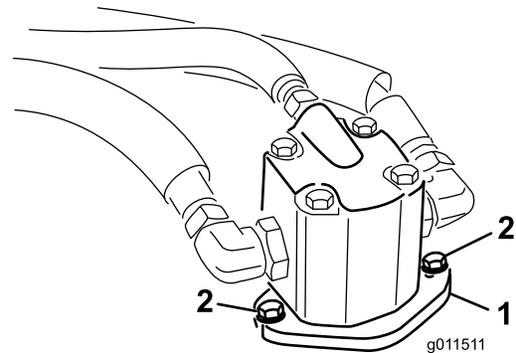

Figure 76
4. Remove the bolts securing the hydraulic motor to the mower deck (Figure 76).